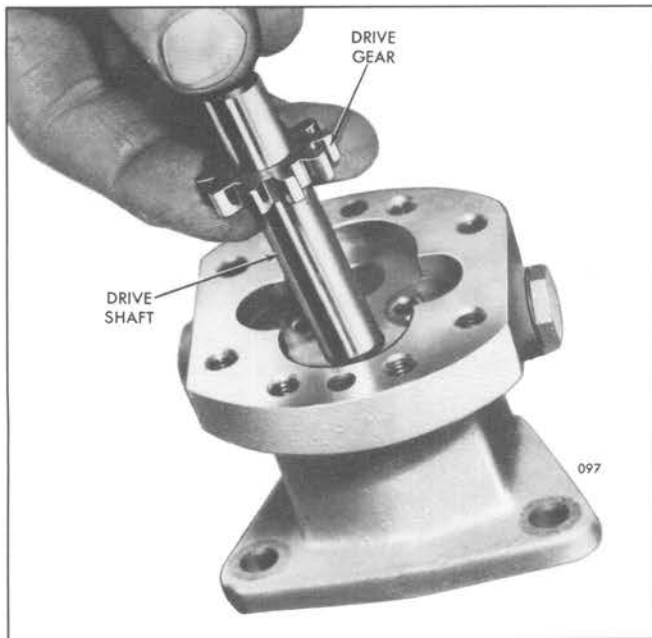

Fig. 10 – Installing Fuel Pump Drive Shaft and Gear Assembly
4. Lubricate the pump shaft and insert the square end of the shaft into the opening at the gear side of the pump body and through the oil seals (Fig. 10).